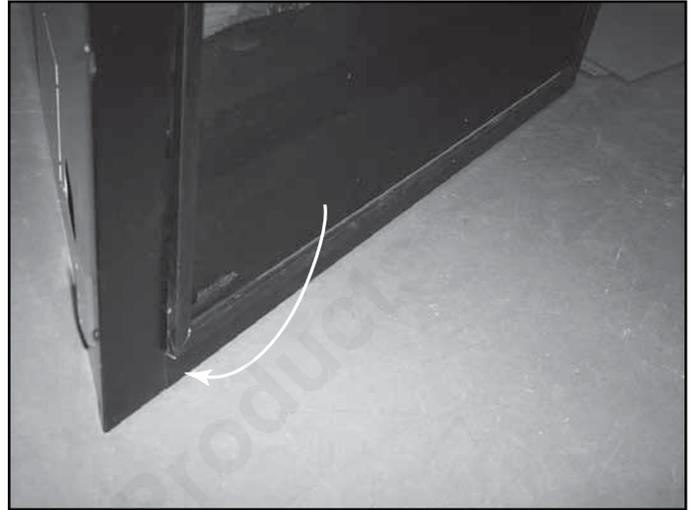

Figure 15.23 Rotate the Screen Down
- Rotate the screen in at the bottom until it touches the magnetic touch latches. See Figure 15.23.